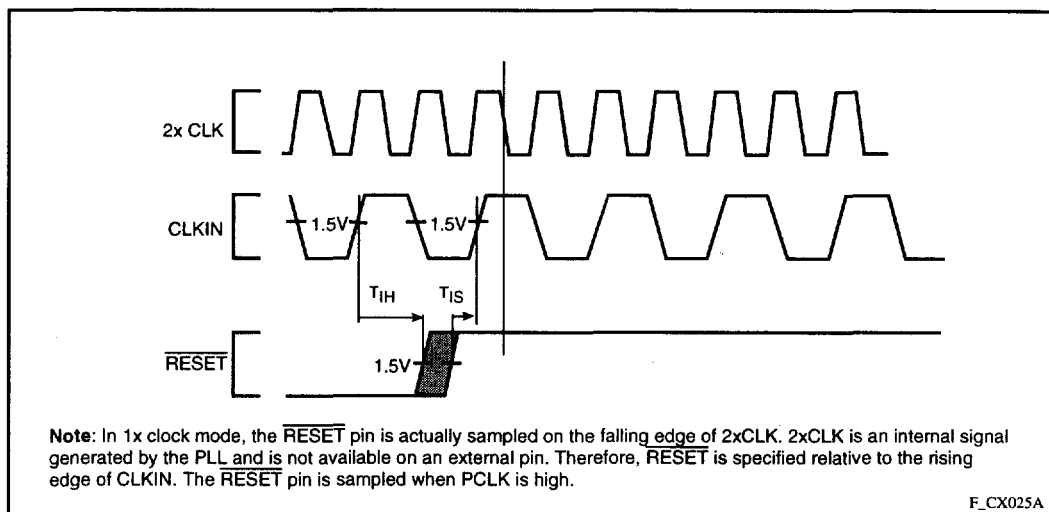

Figure 23. Clock Synchronization in the 1-x Clock Mode
- In 1-x clock mode, \overline{RESET} is an asynchronous input which has no required setup and hold time for proper operation. However, to guarantee the device exits reset synchronized to a particular clock edge, the \overline{RESET} pin must meet setup and hold times to the rising edge of the CLKIN. (See Figure 23.)